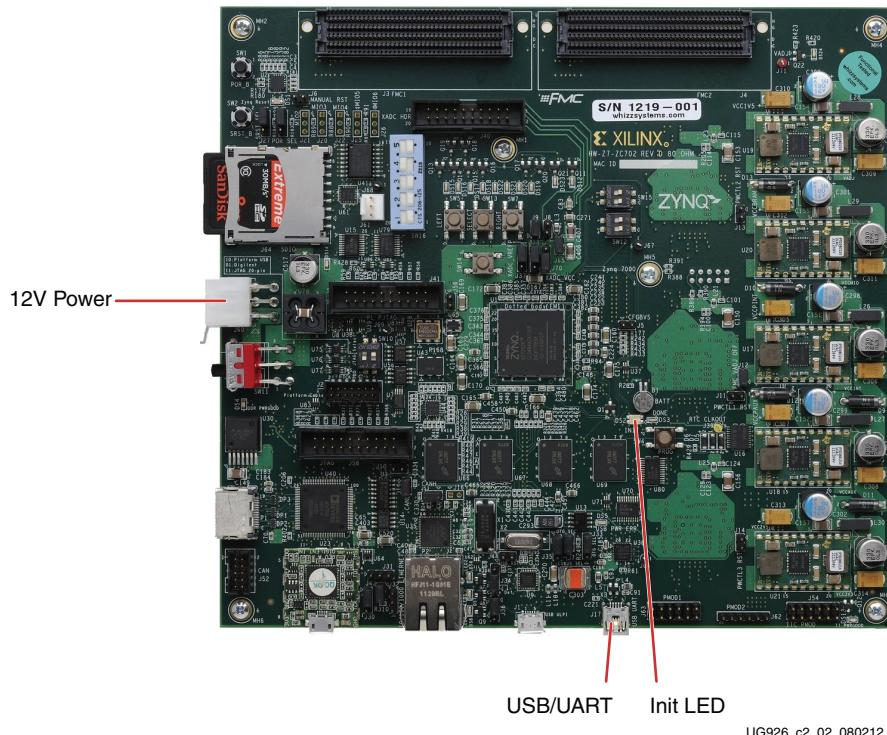

Figure 2-2: ZC702 with the UART and Power Cable Attached
2. With the ZC702 board switched OFF (SW11 in the down position, as shown in Figure 1-4), plug the USB Mini-B cable into the Mini USB port J17 labeled USB UART on the ZC702 board and the other end into a open USB port on your PC (Figure 2-2).